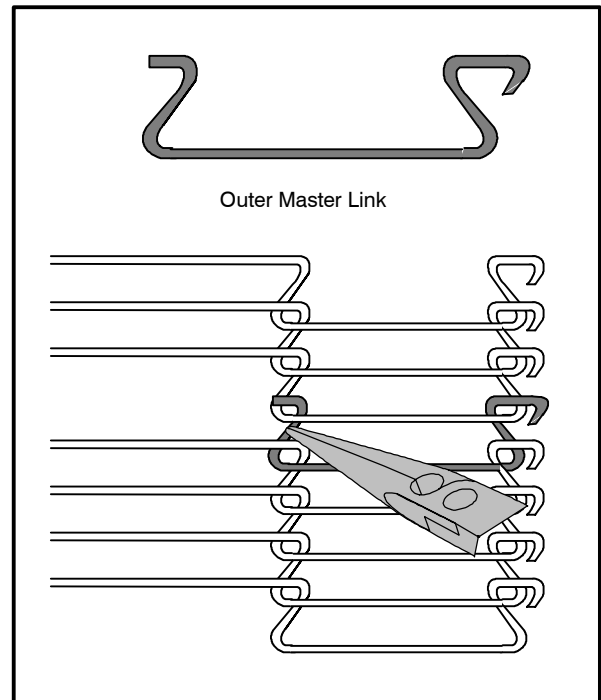

Figure 11
7. Install the outer master links. See Figure 11